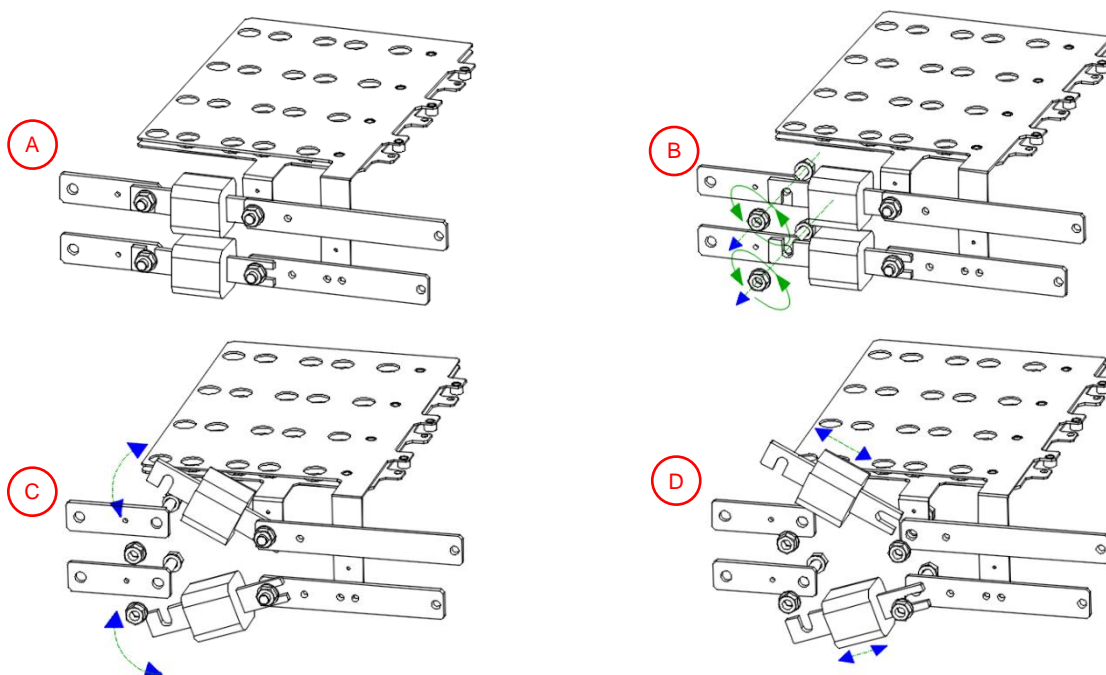

Fig. 5-4: Internal slotted blade fuse – mounting/unmounting steps
- Unscrew the two terminals of the fuses: is not needed unscrew completely the screw, but it is enough to losing the grip; that reduce the possibility to loss bolts or washer down into the power parts (Fig. 5-4.B).
- Rotate and pull out the fuses (Fig. 5-4.C, Fig. 5-4.D)
- Tight the screws to fasten the fuses (Fig. 5-4.A, Fig. 5-4.B).